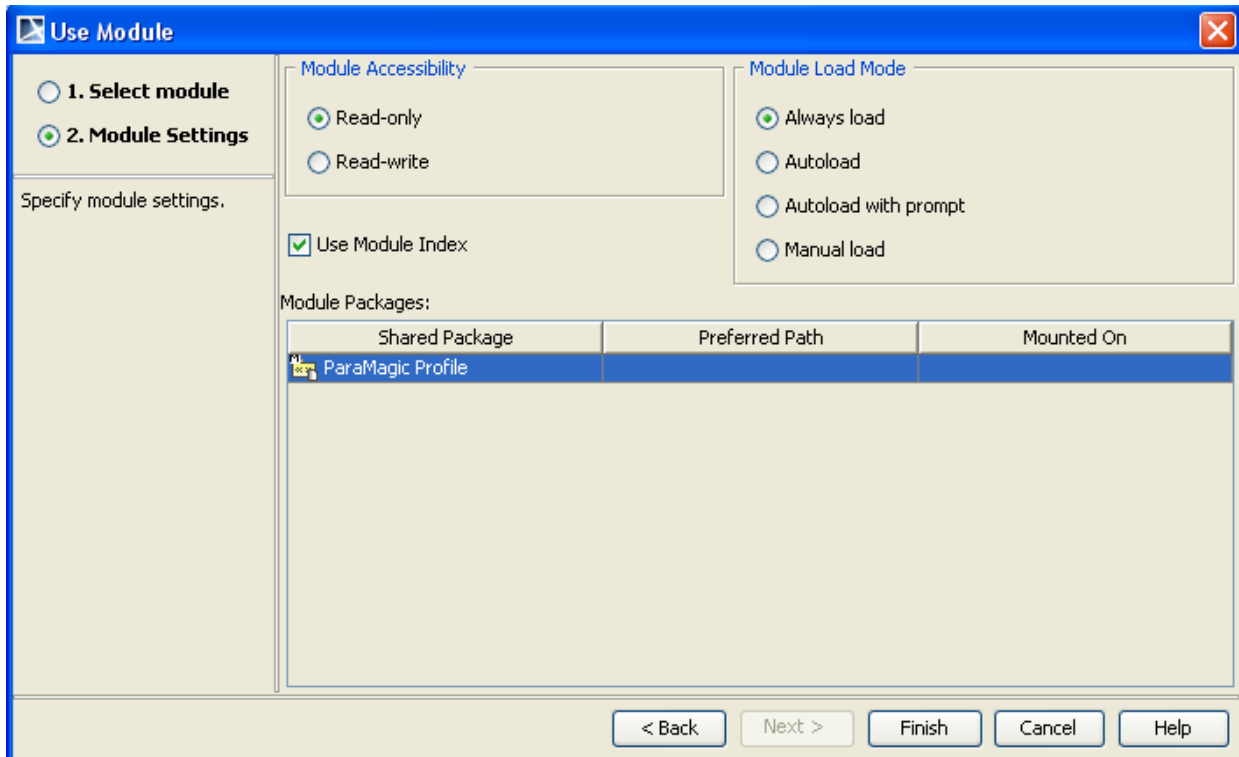

Figure 2.5 Module settings for ParaMagic Profile
- i. Click Next and Finish (Figure 2.5).